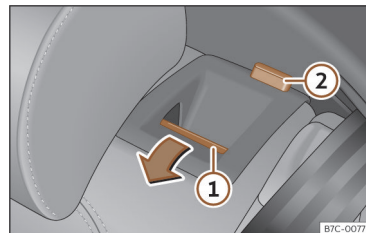

Fig. 69 Rear seat: folding down the backrest.
- Press the unlock button >>> Fig. 69 ① forwards and at the same time fold the backrest down. The rear seat backrest is not engaged when the red marking of the button ② is visible.